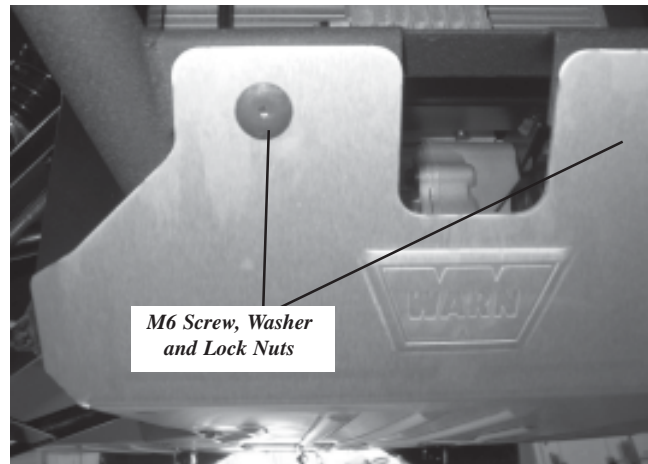

Figure 4
5. Place front skid plate on vehicle. Use C-clamp to temporarily hold skid plate against frame. Drill front bumper mounting location with 17/64 drill bit. Install M6 screw (B1) washer (B3) and lock nut (B4). Do not drill other holes at this time. **(Figure 4)**